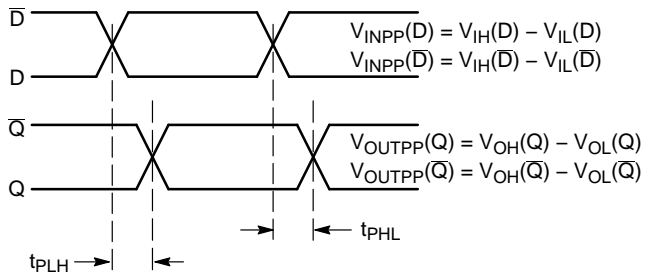

Figure 16. AC Reference Measurement
27. $t_{SKEW} = |t_{PLH} - t_{PHL}|$ for a nominal 50% differential clock input waveform. See Figure 16.